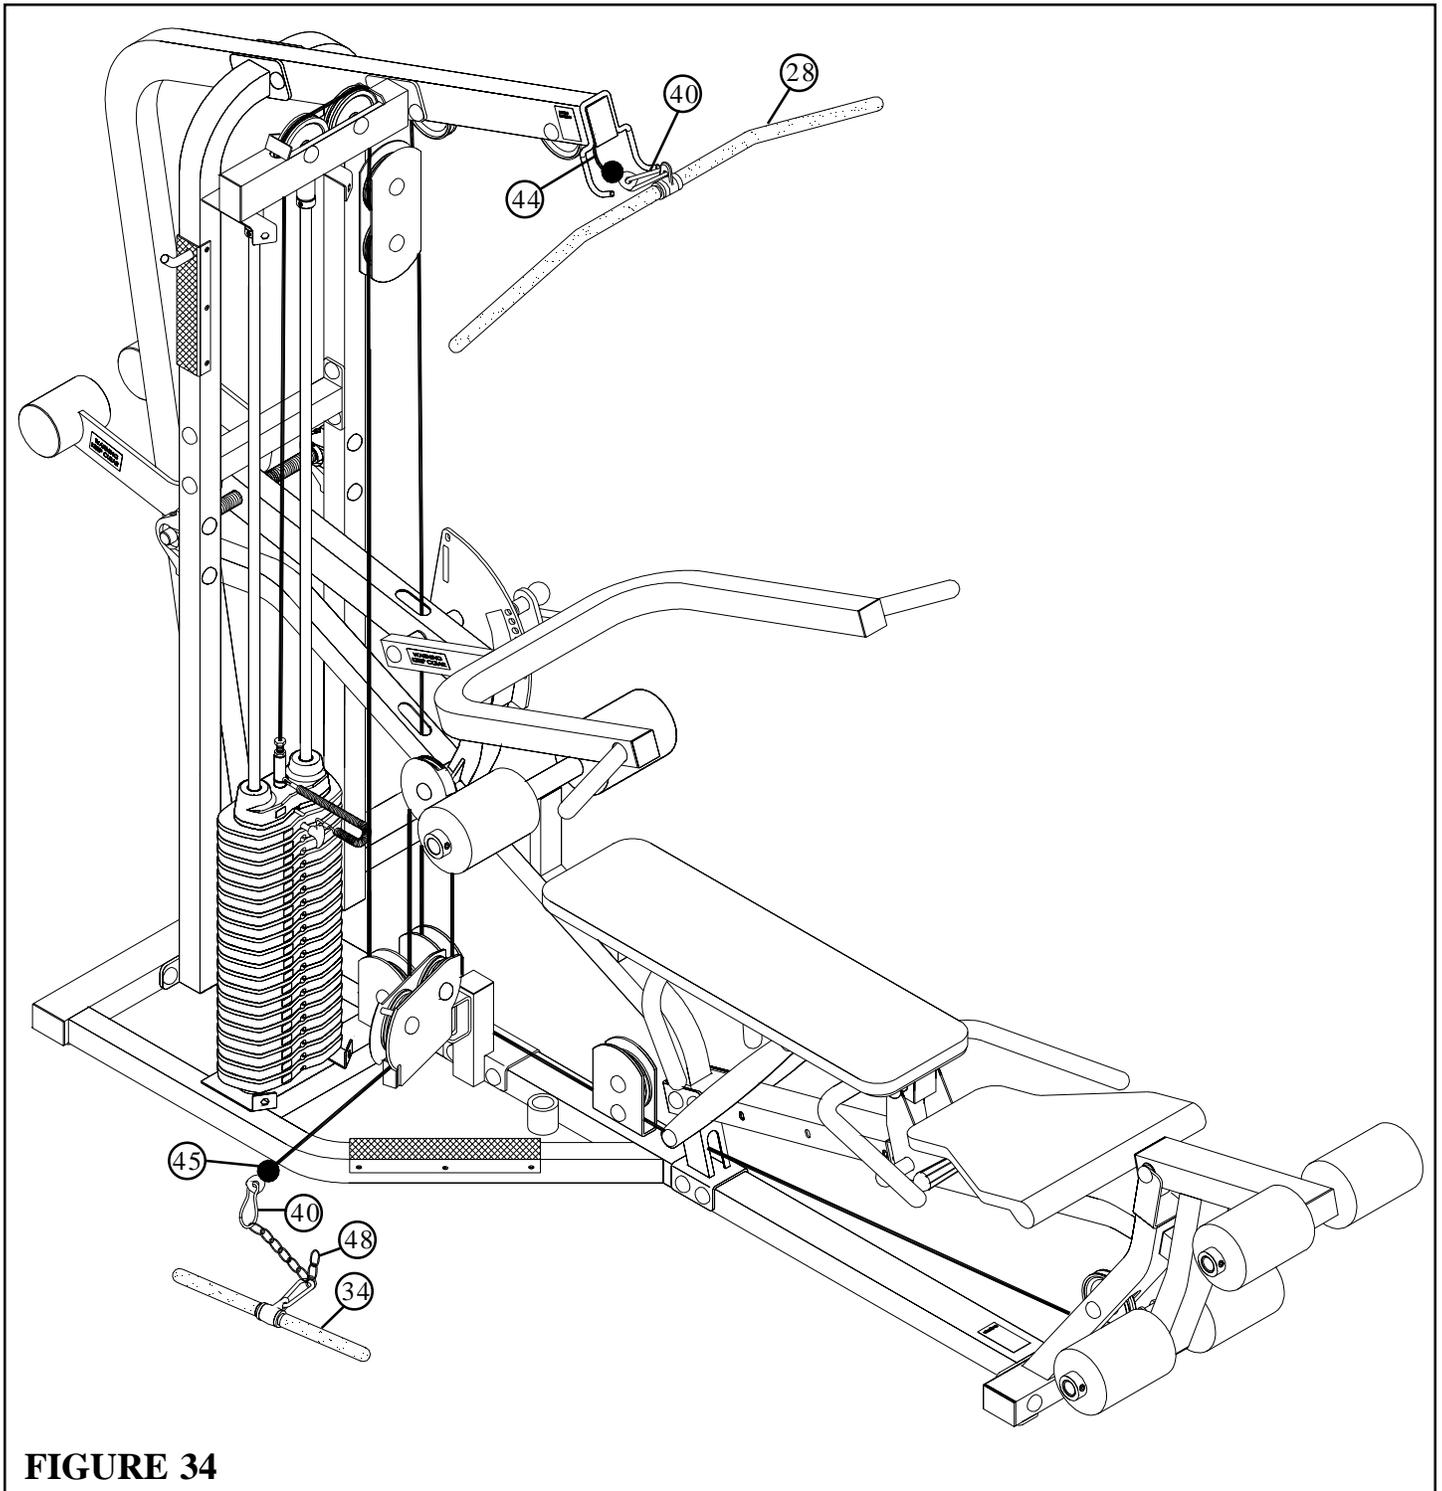

**FIGURE 33**
- Route the LEG CABLE (45) through the bracket on the BASE (1) and assemble one 4-1/2" PULLEY (38) to the bracket on the BASE (1) using four RH CAPS (78), two 3/8 X 1-3/4" BOLTS (62), four 3/8" SAE WASHERS (75), four 3/8" RH WASHERS (76) and two 3/8" LOW HEIGHT LOCK NUTS (73) as shown in FIGURE 33.
- Route the LEG CABLE (45) through the BENCH FRAME (2) and assemble one 4-1/2" PULLEY (38) to the BENCH RAME (2) using one RH CAP (78), one BLACK RH CAP (77), one 3/8 X 3-3/4" BOLT (66), two 3/8 X 1" FLANGE SPACERS (55), two 3/8" SAE WASHERS (75), two 3/8" RH WASHERS (76), one CABLE CLIP (49) and one 3/8" LOW HEIGHT LOCK NUT (73) as shown in FIGURE 33.
- Assemble the swivel end of LEG CABLE (45) to the PEDESTAL (7) using two RH CAPS (78), one 3/8 X 1-3/4" BOLT (62), two 3/8" SAE WASHERS (75), two 3/8" RH WASHERS (76), and one 3/8" LOW HEIGHT LOCK NUT (73). See FIGURE 33.